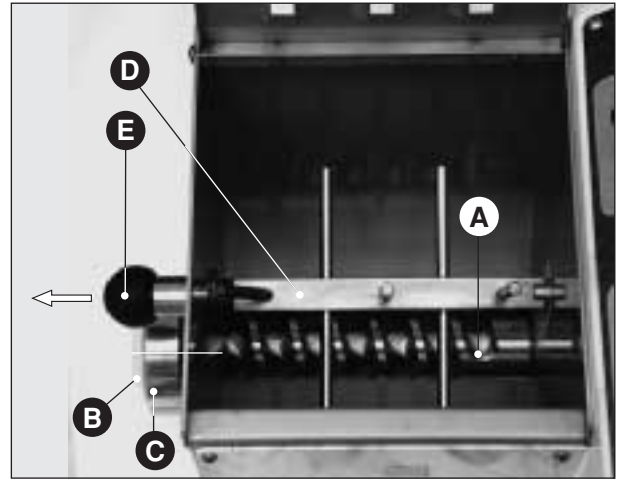
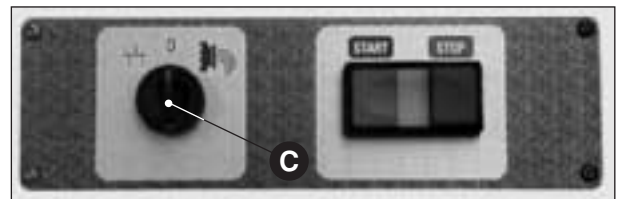
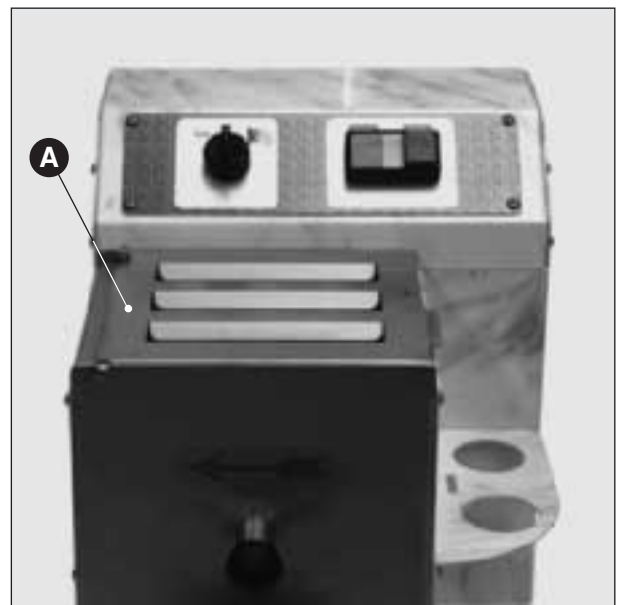

Fig. 1
Fig. 2
Fig. 3
- position the selector on “0” (Fig. 2 C) and verify the correct set-up of the Archimedean screw (Fig. 1 A) making sure that the cylinder part is sustained by the dragging shaft;
- then make sure that the plastic cap (Fig. 1 B) which replaces the drawplate is correctly positioned and the ring nut (Fig. 1 C) is tightly well-screwed on;
- finally block the mixer (**Fig. 1 D**) in its place, thanks to the head-handle (**Fig. 1 E**). Pull up the pool cover (**Fig. 3 A**) and **always** put in the pre-established ingredients in the following sequence: flour and then, after closing the cap, all the other liquid elements.